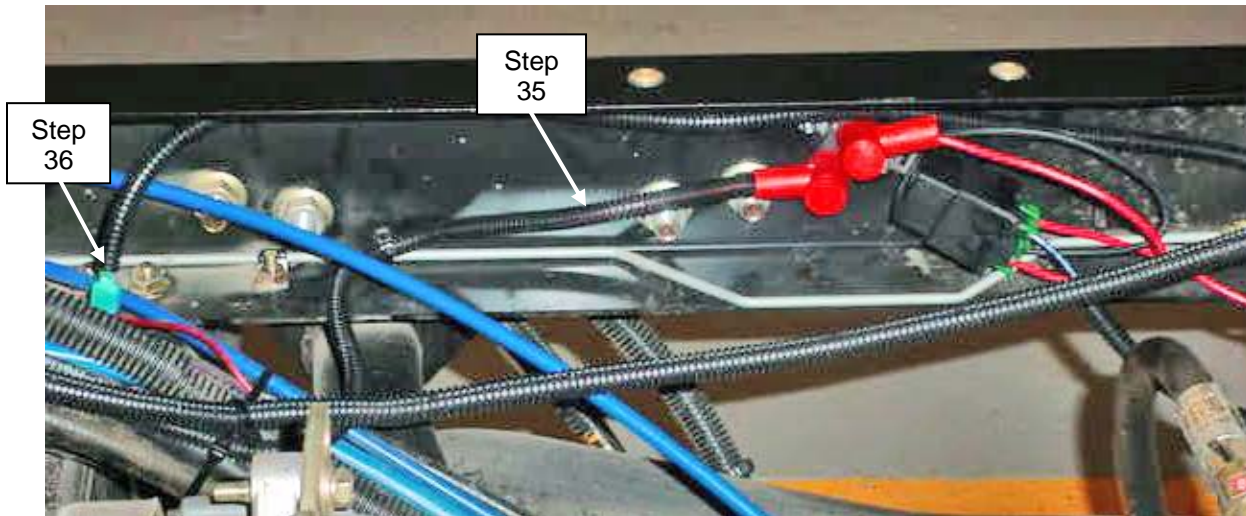

Figure 10
34. Remove relay/breaker harness assembly from bag and prepare for installation. Mount the relay/breaker harness assembly through an existing hole in the Workman frame, using the #10 screw, nut and lock washer, that holds the relay and circuit breaker together. See Figure 10.
35. Route the red (hot) wire from the relay/breaker assembly to the starter solenoid and attach the ring stud to the starter solenoid hot terminal. Make sure the rubber boot is re-installed over solenoid hot terminal, if applicable. See Figure 10.
36. Connect the blue wire inline electrical splice on the wire relay breaker assembly to the red wire with the black stripe on the main vehicle harness. See Figure 10.
43. Remove and store the (2) lifting brackets and bracket bolts.